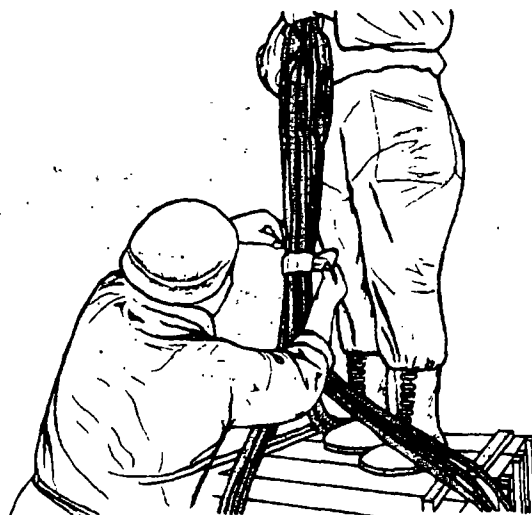

Figure 7-9. Taping Lifting Legs
Step 6 - All four sides of the net are now ready to be pulled up around the load. Begin by having the person on top of the load hold the apex up and another person tape or tie all 16 lifting legs together at 3- to 4-foot intervals until no more slack can be pulled up on the legs. If the load is small, you may have to tape or tie the net together above the load. The tighter the net is around the load, the less possibility there is of damage to the net. Tape or tie the legs and net so that the net does not snag on the load as the helicopter lifts the net (Figure 7-9). Use breakaway technique so that the tape or tie can break after the slack is removed from the legs and net.